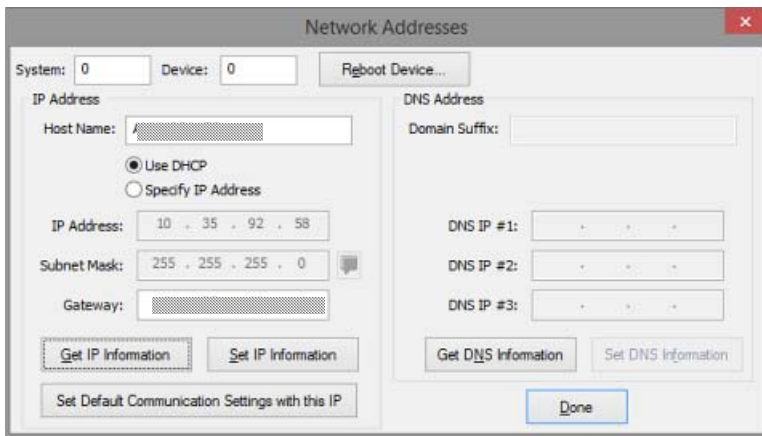

FIG. 45 NetLinx Studio - Network Addresses dialog
- a. In NetLinx Studio, select **Diagnostics > Network Addresses** to open the *Network Addresses* dialog (FIG. 45).